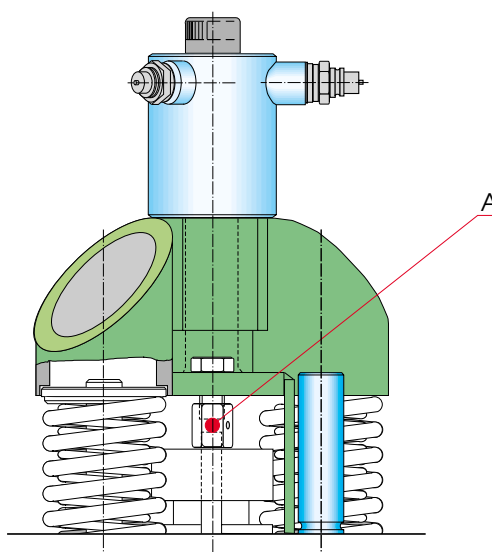

Fig 12-3
- 1 Fit the tool assembly** according to Fig 12-3.